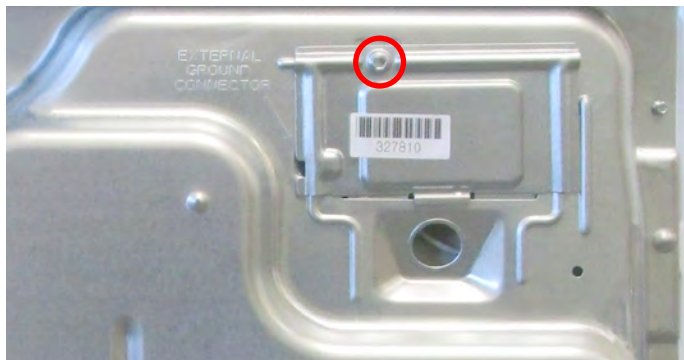

Figure 2
4. Remove the 5/16" hex-head screw securing the terminal block cover to the rear panel. Remove the cover (see Figure 2).